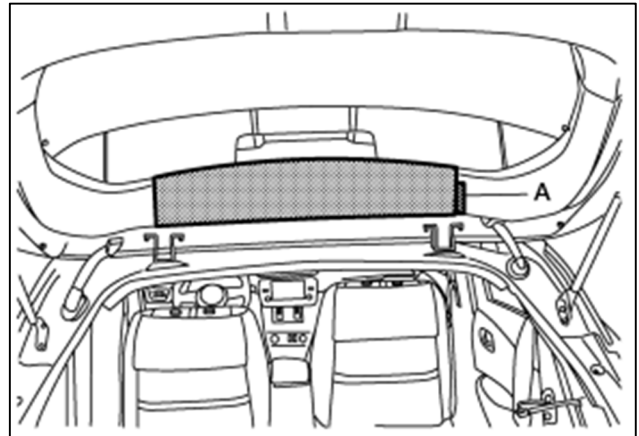

Figure 3
- a. Apply protective tape (A) to the back door side finishers to prevent damage (Figure 3).